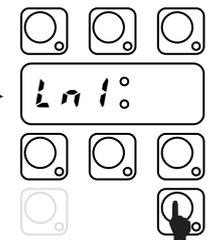
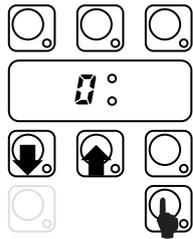

Fig. 46 Wash duration [min].
Fig. 47 Change value & Store
- Press CYCLE_INFINITE. The display shows alternatively the symbol *Ln 1* (Figure 46) and the corresponding value *0* (Figure 47);
- Use CYCLE_1 key to increase the value and CYCLE_2 key to decrease (Figure 47);